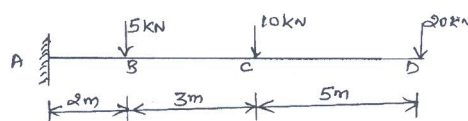

Fig. Q4 (b)
b. Calculate the shear force and bending moment. Draw shear force diagram and bending moment diagram in Fig. Q4 (b). (14 Marks)